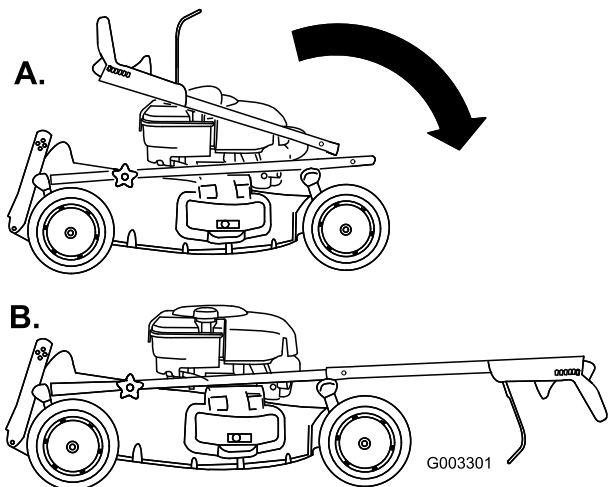

Figure 3
2. Carefully move the upper handle forward and place the ends over the lower handle so they are in line and nest together; (Figure 3).